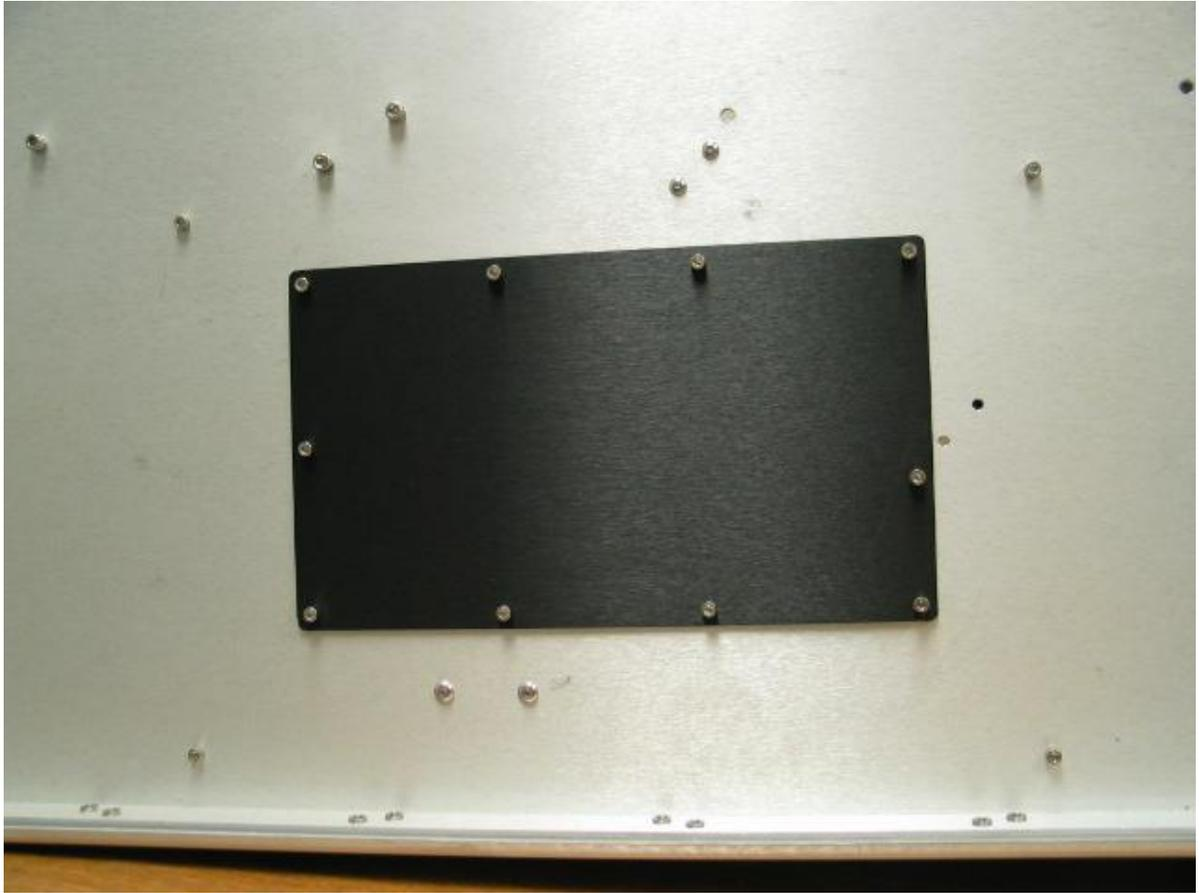
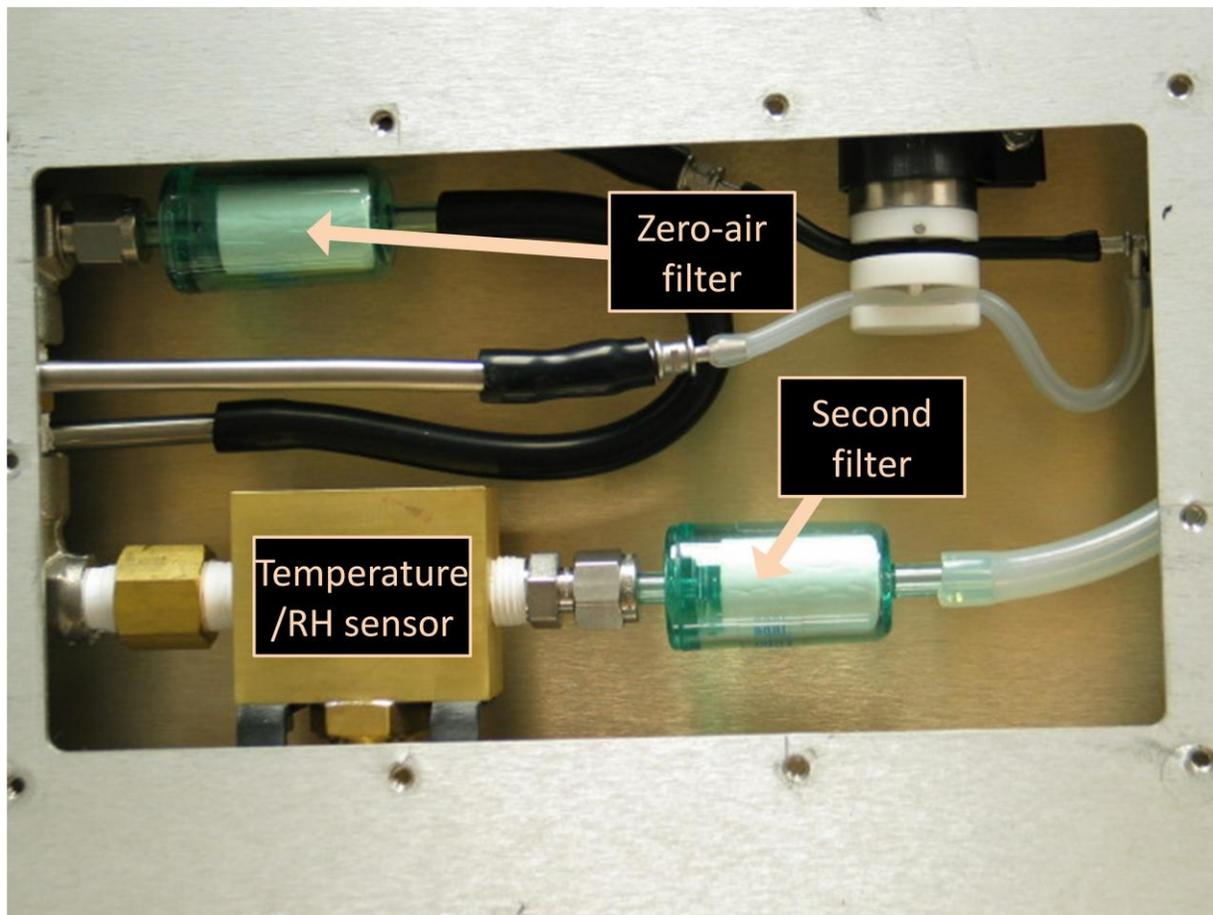

Figure 9: Filter Access Panel
Figure 10: Filter Location
1. Check the filter in front of the Temperature/RH sensor and the zero-air filter (Figure 10). These filters are accessed by removing the black panel on the underside of the PASS-3 enclosure (Figure 9). If material has accumulated on the filters, they should be replaced. They can be ordered from www.mcmaster.com and have the following specifications: